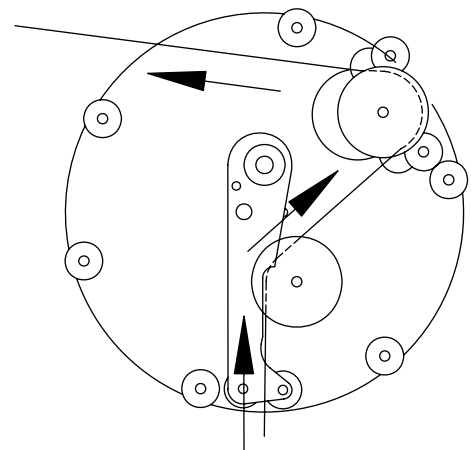

Figure 5
3. Thread the film through the control plate on the **Pay-Out** platter (Figure 5). As you pull film through the control plate, the **Pay-Out** platter will rotate and keep the film from wrapping around the control plate.